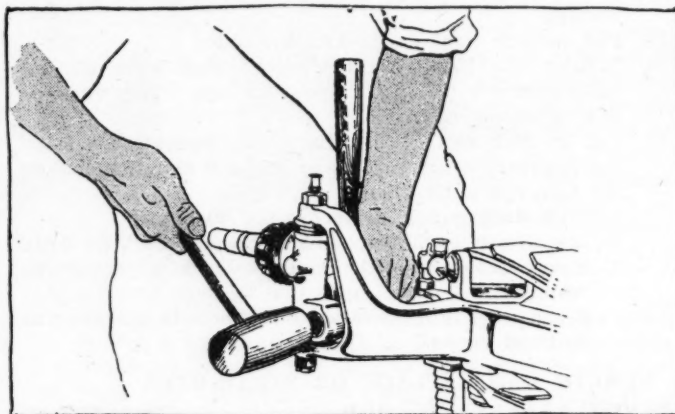

Fig. 2. Using lead hammer to drive out knuckle arm
6. With soft hammer, drive out steering knuckle arm. See Fig. 2.